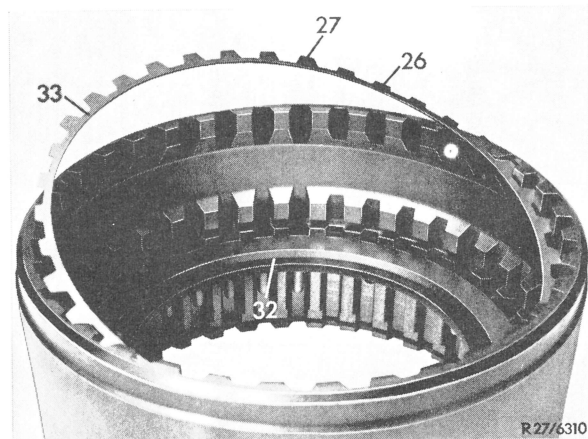
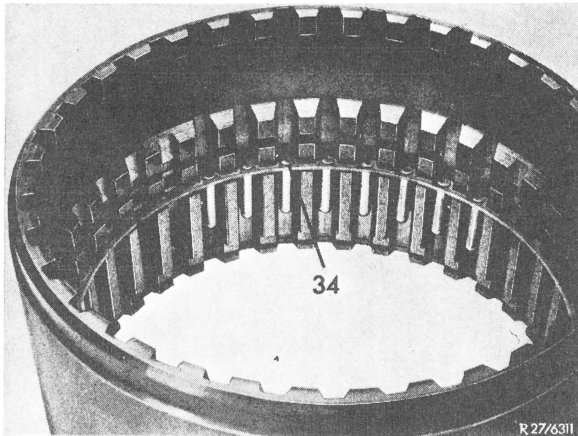

Fig. 4
Fig. 5
5 Remove compensating washer (33) with outside plate (32) (Fig. 4) and guide ring (34) for compression springs (Fig. 5).
8 Insert guide ring (34) for compression springs (Fig. 5) outside plate (32) and compensating washer (33) (Fig. 4).